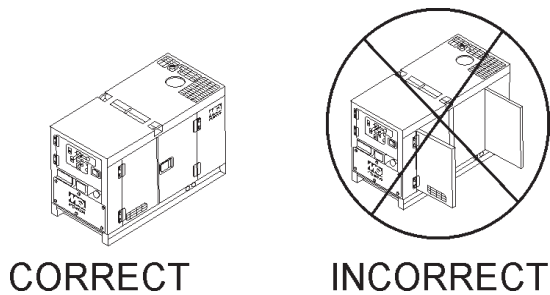

Figure 38. Engine Enclosure Doors
4. Close all engine enclosure doors (Figure 38).